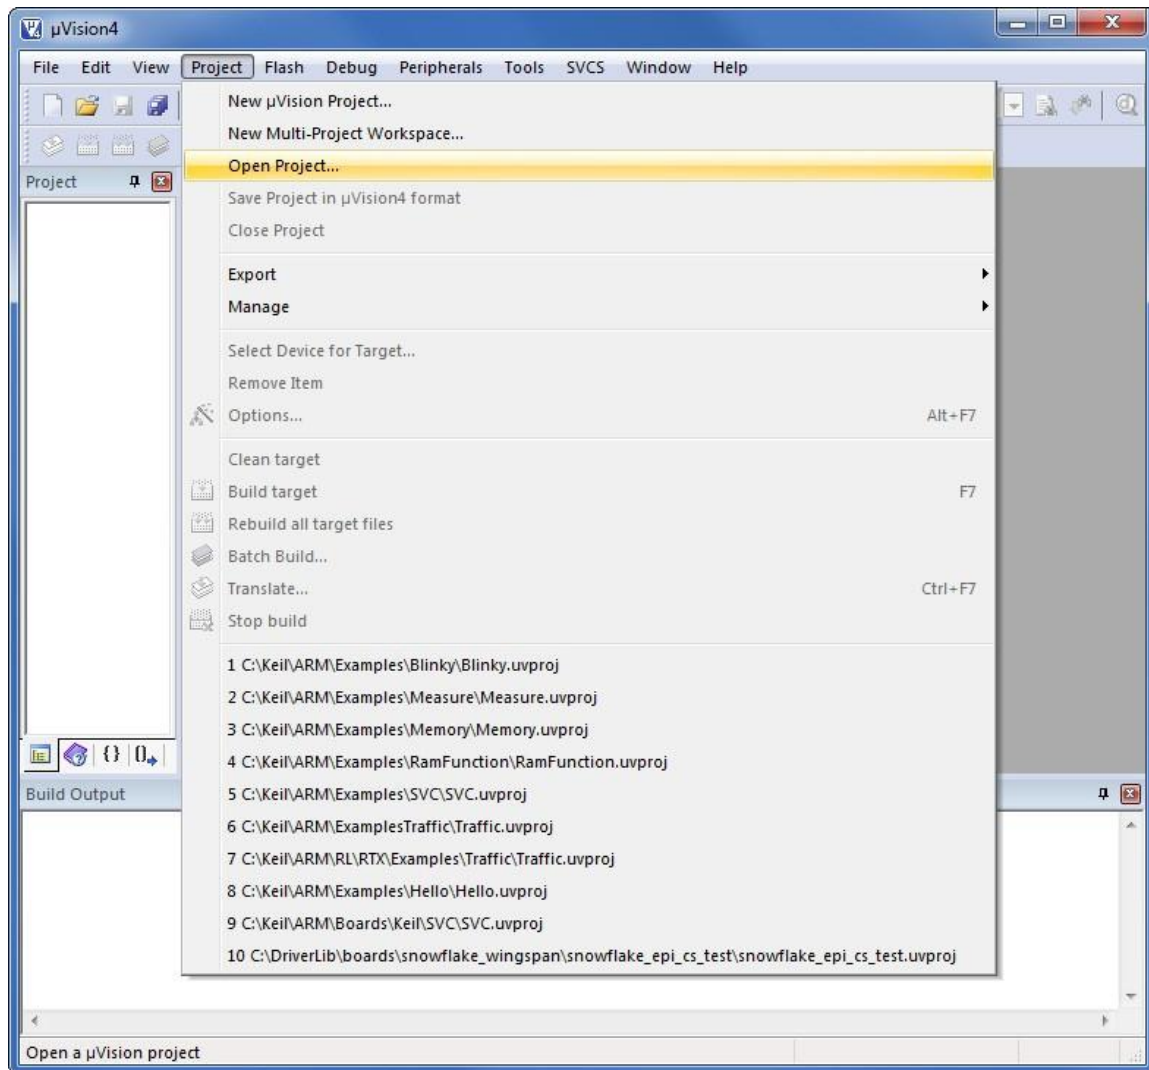

Figure 4
4. From the Project menu, select Open Project... (See Figure 4)